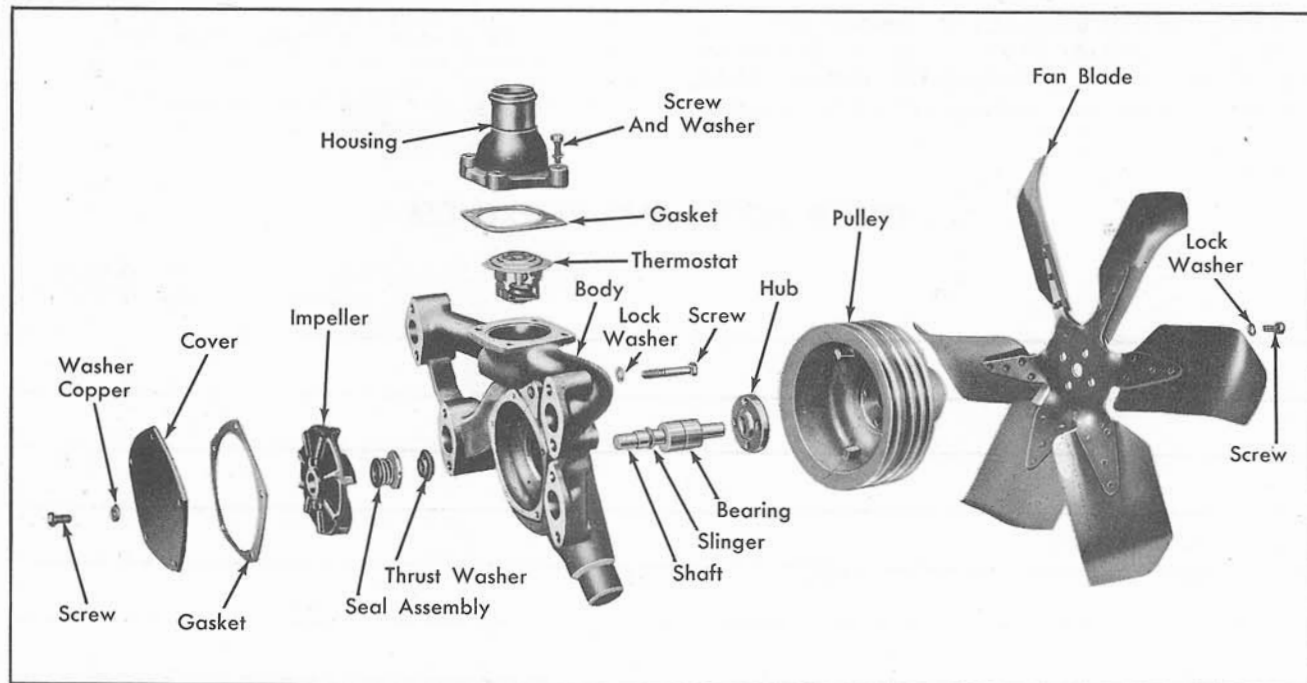

Fig. 11-1 Water Pump Disassembled
1. If bearing, shaft, and slinger assembly, Fig. 11-1, has been removed from the water pump, replace by pressing new assembly into body, using Water Pump Shaft Installer and Hub Spacer, Tool No. J-3249.